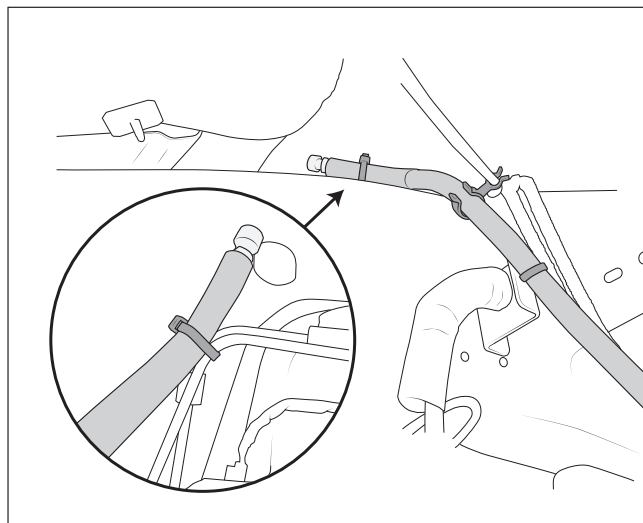

Figure 36
18. Reattach the axle vent hose. Pull slack out of the hose and secure with zip ties as shown (fig. 36).